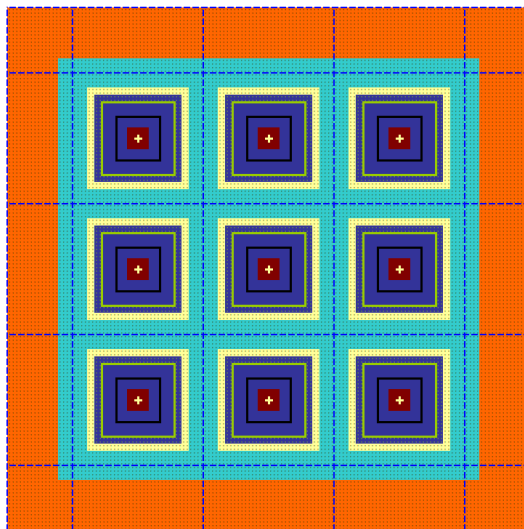

Fig. Q4c
- (3) Fig. Q4c is a mask designed for SiC MOSFET cells. The shape of the transistor cell is square. Straight stripe cells can be used also, compare the current I_{ds} these two patterns for the same active area in the figure.